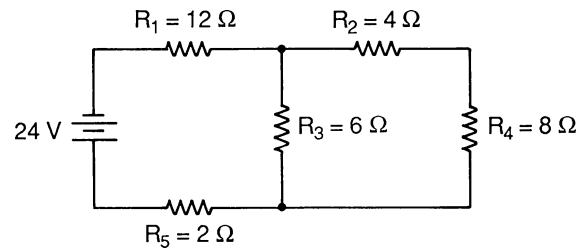

Fig. P-1
1. Find the current through R_1 in Fig. P-1.
2. Find the current through R_4 in Fig. P-1.
3. Find the voltage drop across R_3 in Fig. P-1.
4. Find the voltage drop across R_2 in Fig. P-1.
5. Find the current through R_5 in Fig. P-1.